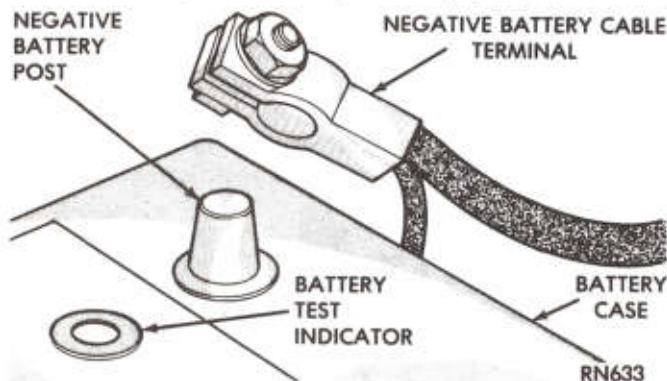
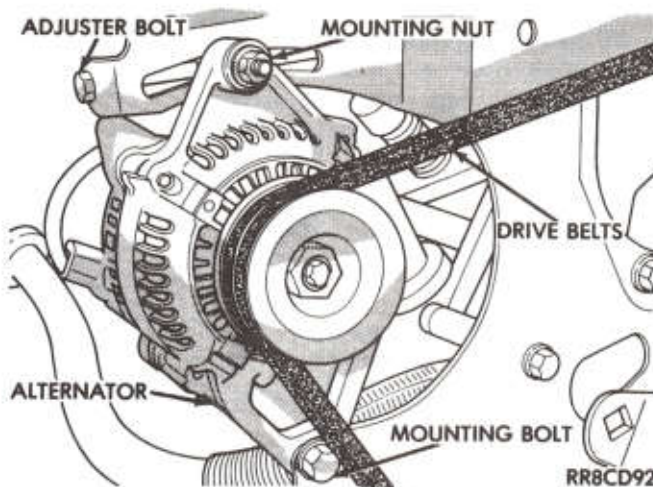

Fig. 1—Remove or Install Battery (–) Cable
Fig. 2—Remove or Install Mounting Bolts
- (1) Remove the negative battery cable (Fig. 1).
- (2) Remove alternator drive belt. See Group 7, Cooling System.
- (3) Remove the alternator mounting nut (top) and bolt (bottom) and separate the alternator from the mounting plate (Fig. 2).